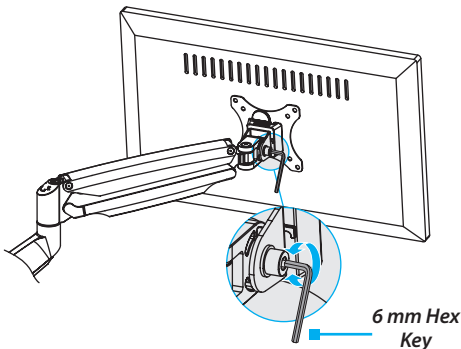

Figure 14
2. To change the angle that the monitor is tilted at, use the **6 mm Hex Key** to turn the screw in the side of the mount counterclockwise. When the screw is loose, position the monitor at the angle that works best for you. Use the **6 mm Hex Key** to turn the screw clockwise to tighten it. (Figure 14)